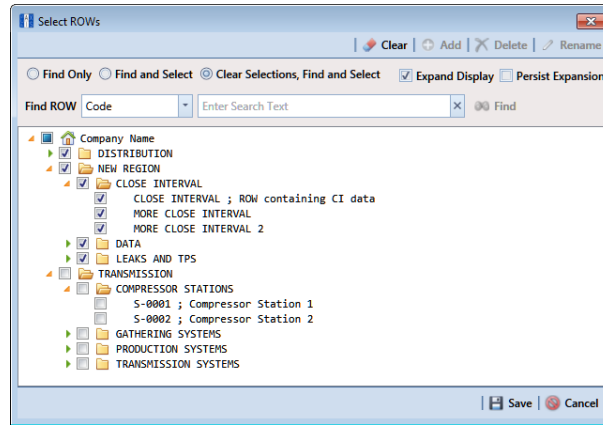

Figure 7-58. Select ROWs
- 1 Select one or more pipeline segments in the *Select ROWs* window (Figure 7-58). Select pipeline segments with facilities you want to work with, then click  **Save** to close the window.